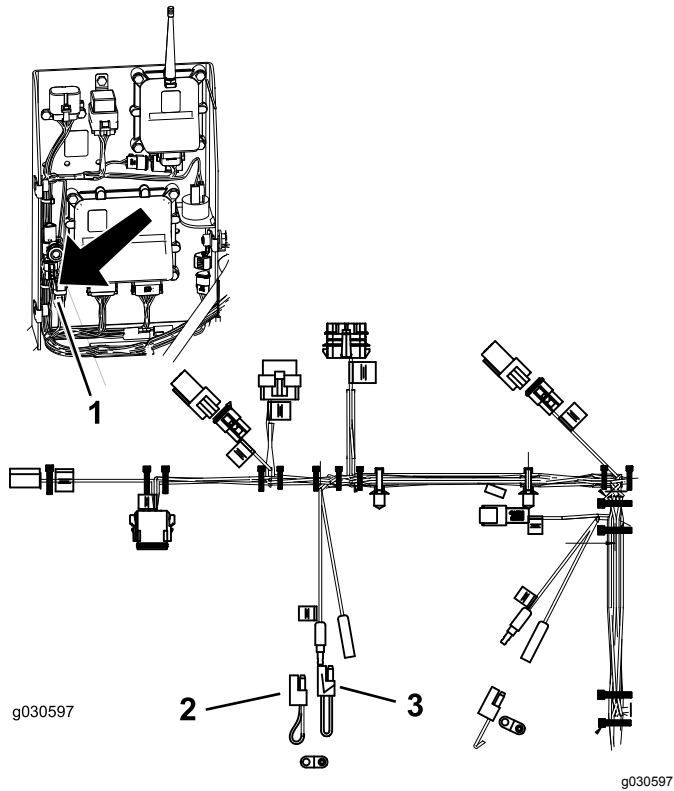

Figure 32
2. Unplug the 2 wire connections from the pigtail connector shown in Figure 32.